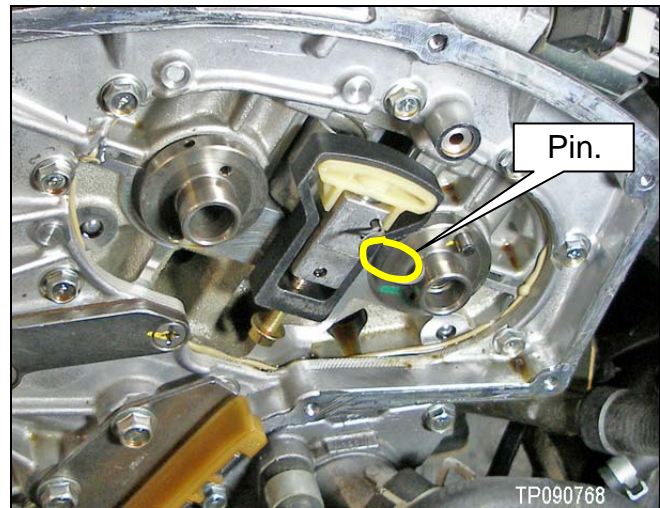

Figure 1
- Use the chain tensioner pins (pin) from Tool Kit J-50246 to hold all three (3) chain tensioner plungers. Figure 1 shows a pin used on B2 tensioner.